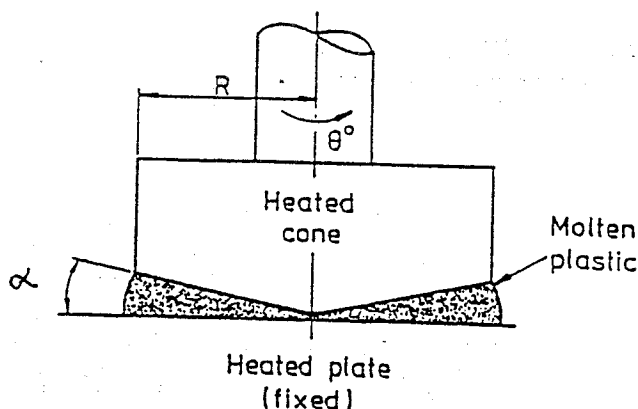

FIGURE 4(b)
- (b) A cone and plate viscometer is used to measure the viscosity of a polymeric power-law fluid, as shown in Figure 4(b)